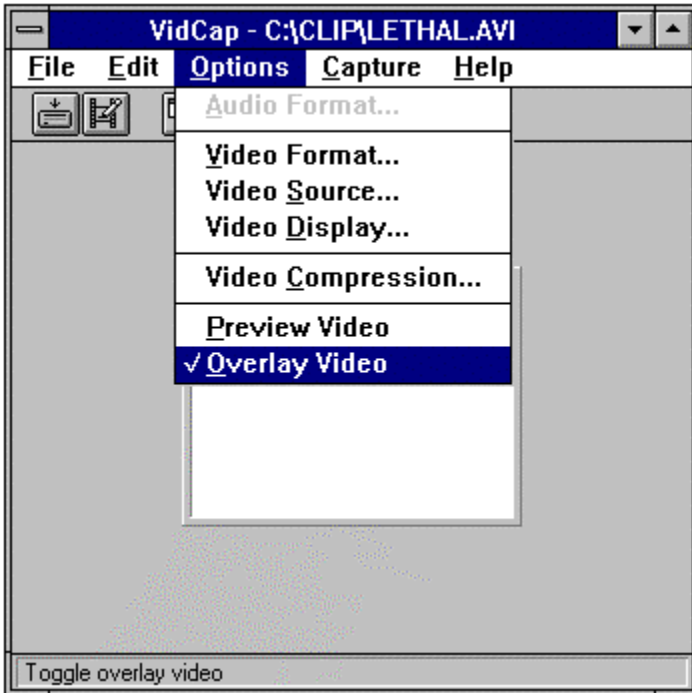

Figure 3-19.
1. In the VidCap program window, **CLICK** on “Video Format” under Options to set screen size (see Figure 3-19).